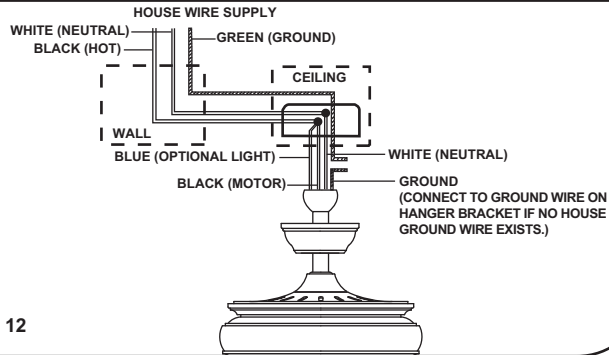

Fig. 12
**Step 1.** Connect the black (hot) wire from the ceiling to the black and the blue wires from the fan. Connect the white (Neutral) wire from the ceiling to the white wire from the fan. (Fig. 12)